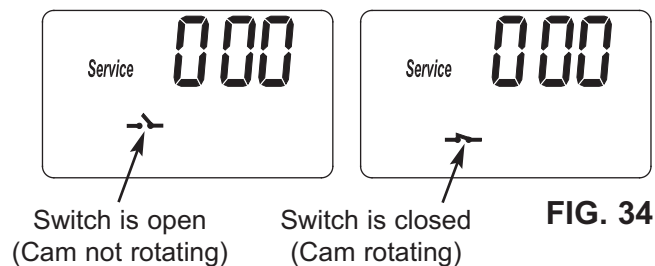

FIG. 34
3. Symbols in the display indicate POSITION switch operation (See Figure 34).